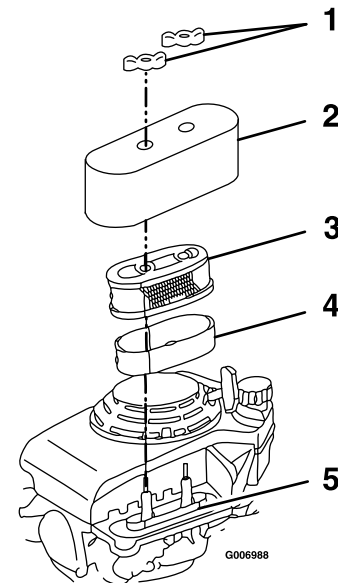

Figure 24
- Remove the two wing nuts that secure the cover (Figure 24).